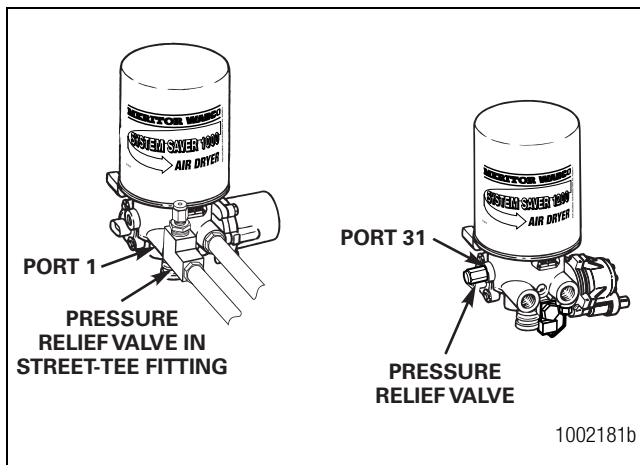

Figure 3.21
If your dryer uses a bypass valve (date code of 2295 or earlier), the pressure relief valve will be installed with a Street-Tee fitting at the front (Port 1) of the dryer. On dryers with date codes later than 2295, the pressure relief valve is located at the side of the dryer (Port 31). Figure 3.21.
2. Unscrew and remove the old pressure relief valve. Figure 3.21.